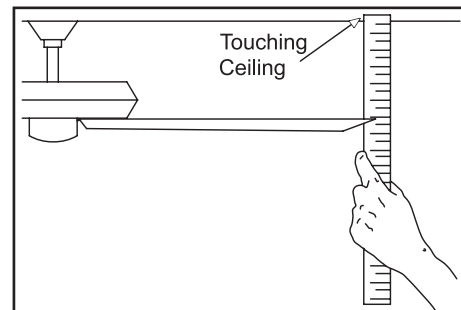

Figure 11
2. Most fan wobble problems are caused when blade levels are unequal. Check this level by selecting a point on the ceiling above the tip of one of the blades. Measure from a point on the center of each blade to the point on the ceiling. Measure this distance as shown in Figure 11. Rotate the fan until the next blade is positioned for measurement. Repeat for each blade. Measurement deviations should be within 1/8". Run the fan for 10 minutes.